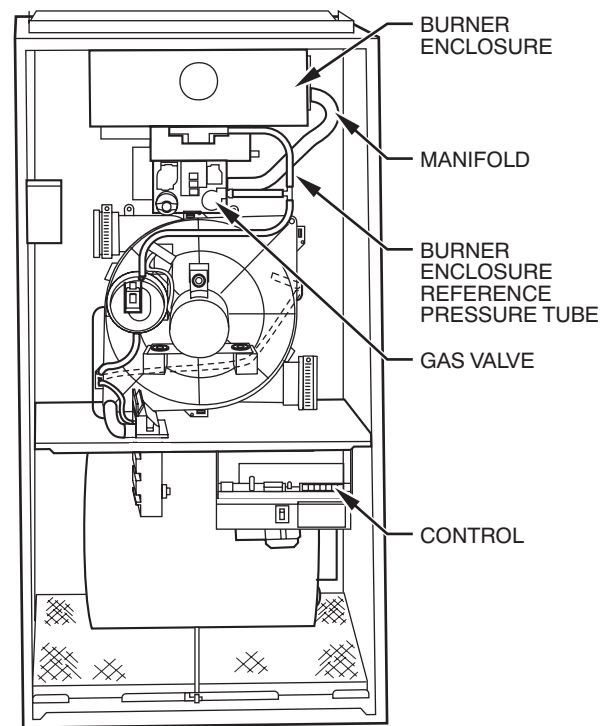

Fig. 34 - Multipoise, Hot-Surface Ignition, Fixed-Speed, Condensing Furnace Component Location (Upflow Orientation Shown)
**NOTE:** See Fig. 34 for component location in upflow orientation. Reorient component arrangement when furnace is installed in other positions.
7. Remove burner-box pressure tube from gas-valve burner enclosure; reference pressure-tap fitting. (See Fig. 34.)